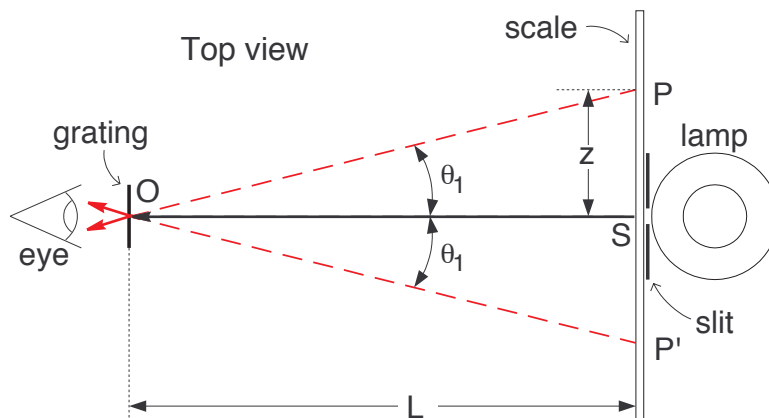

Figure 5
- A. Position the gas discharge lamp directly behind the screen with the single slit and place the meter stick in the holder as shown in Figure 5.